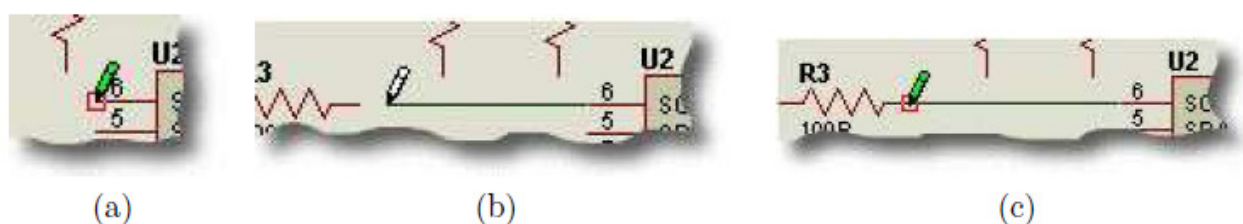

Figure 4.12 – wiring up.
- Move the mouse over the first pin to be connected - the cursor will change to a green pen as shown in Figure 4.12 (a).
- Left click the mouse and then move it until it is over the second pin to be connected. The wire will follow the mouse and the cursor / pen is white during wiring as shown in Figure 4.12 (b).
- Left click the mouse again to commit the connection and place the wire as shown in Figure 4.12 (c).